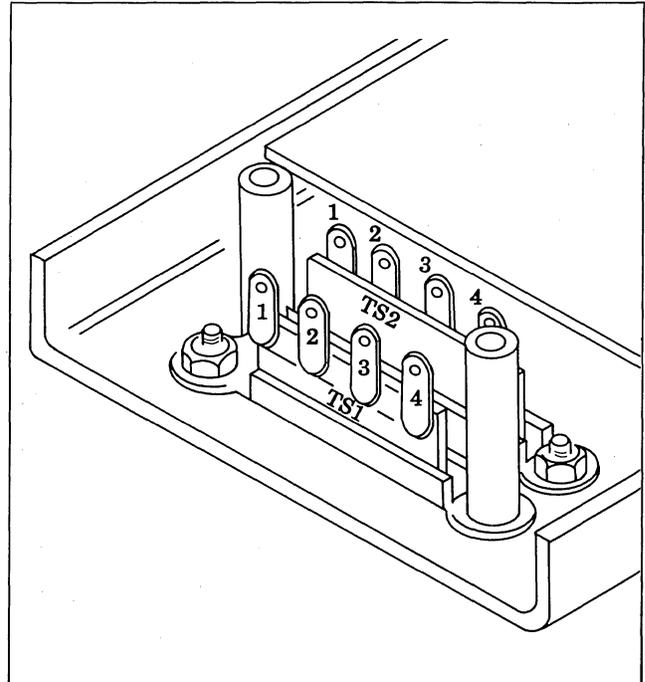

Figure 5-4. Power Supply Terminals
4. Two terminal strips are now exposed, as shown in Figure 5-4. The terminal strip on the left is TS2, the other is TS1. Terminals are numbered 1 through 4 consecutively, with terminal 1 nearest the rear panel.